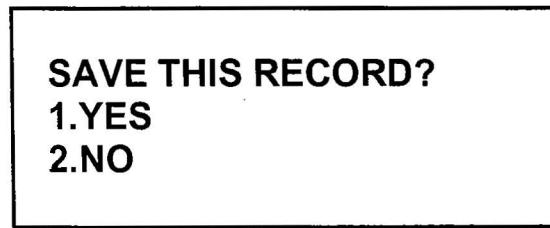

Figure 14-15. Print Transformer Test Results Menu
- c. Action Option:** Select key 1 to run another test and advance to “Transformer Name Plate Voltage” menu (Figure 14-4). Select key 2 to end the current test and advance to “Save Test Record” menu (Figure 14-15).
- c. **Action Option:** Select key 1 to save current test record (see Figure 14-15). Select key 2 to bypass this option.